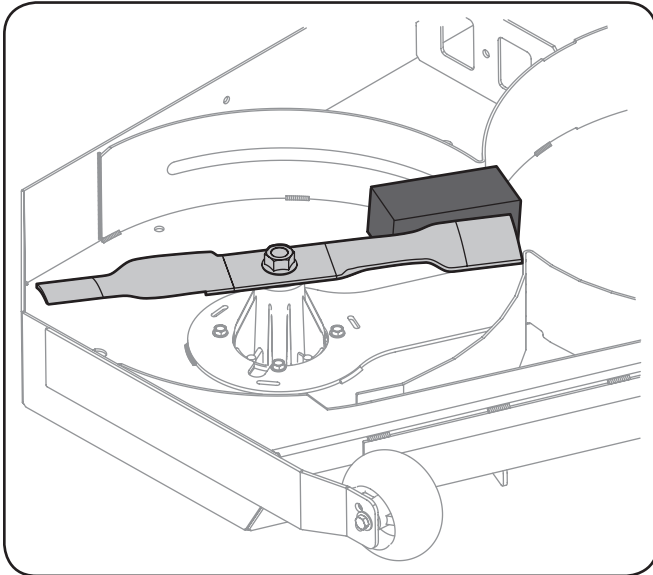

Figure 1-2
3. Place a block of wood between the deck housing baffle and the cutting blade to act as a stabilizer, then use a wrench to remove the hex flange nut that secures each blade to its spindle assembly. See Figure 1-2.